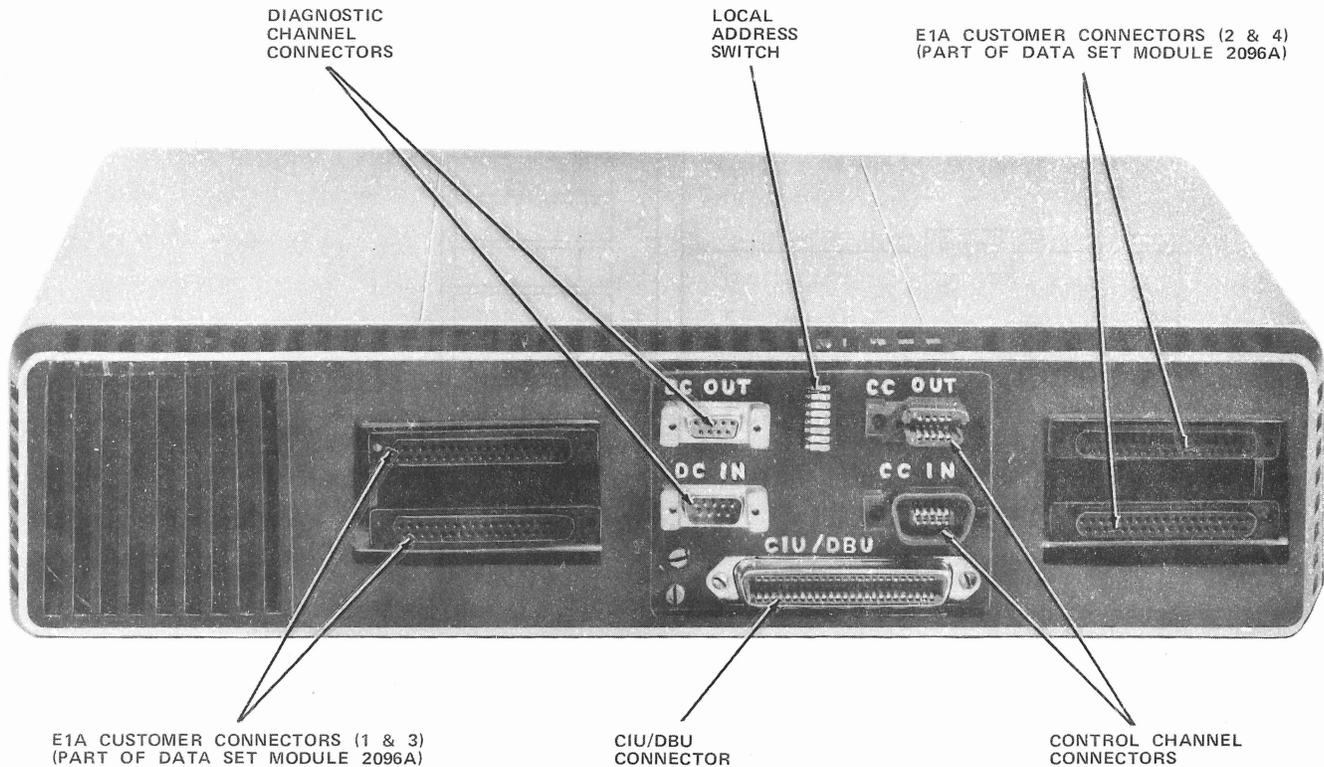

Fig. 4—63A1 Stand-Alone Data Mounting (Rear View)
**2.03** To set the local address of the data set, it is necessary to gain access to CP1 at the back of the 63A data mounting (Fig. 4). Set local address of data set to correspond with the local address as specified on the service order using